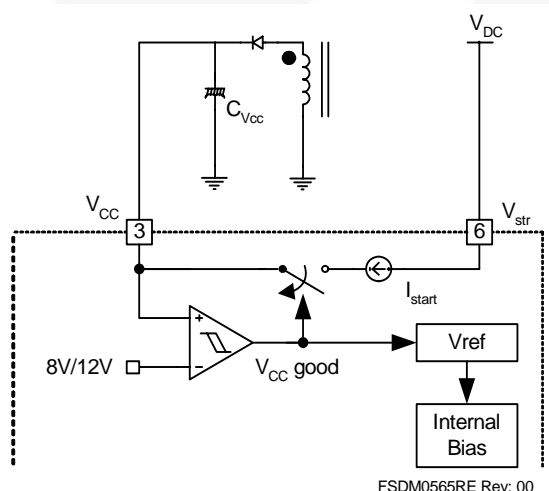

Figure 17. Internal Start-up Circuit
1. Start-up: In previous generations of Fairchild Power Switches (FPS™), the V_{CC} pin had an external start-up resistor to the DC input voltage line. In this generation, the start-up resistor is replaced by an internal high-voltage current source. At start-up, the internal high-voltage current source supplies the internal bias and charges the external capacitor (C_{VCC}) connected to the V_{CC} pin, as illustrated in Figure 17. When V_{CC} reaches 12V, the FSDM0x65RE begins switching and the internal high-voltage current source is disabled. The FSDM0x65RE continues normal switching operation and the power is supplied from the auxiliary transformer winding unless V_{CC} goes below the stop voltage of 8V.